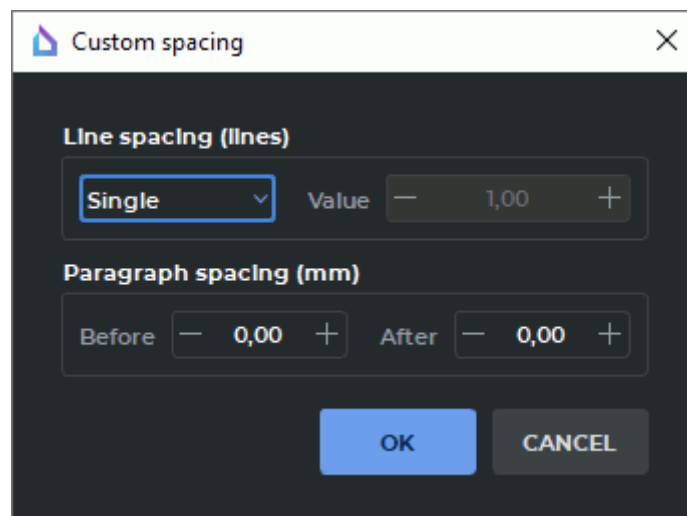

Figure 17.3: Dialog box for setting line spacing
- the **Line spacing**  button is used for setting the intervals between the lines of the current paragraph, as well as the intervals between paragraphs. If you click the  button, a dialog box will pop up (see Fig. 17.3).